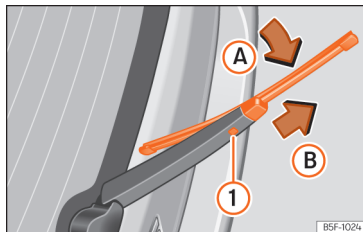

Fig. 152 Changing the rear wiper blade
- Rotate the blade lightly >>> Fig. 152 (arrow **A**).
- Hold down the release button ① while gently pulling the blade in the direction of arrow **B**.
- Insert a new blade of the **same length and type** in the rear wiper arm in the opposite direction to the arrow **B** until button ① hooks into place.